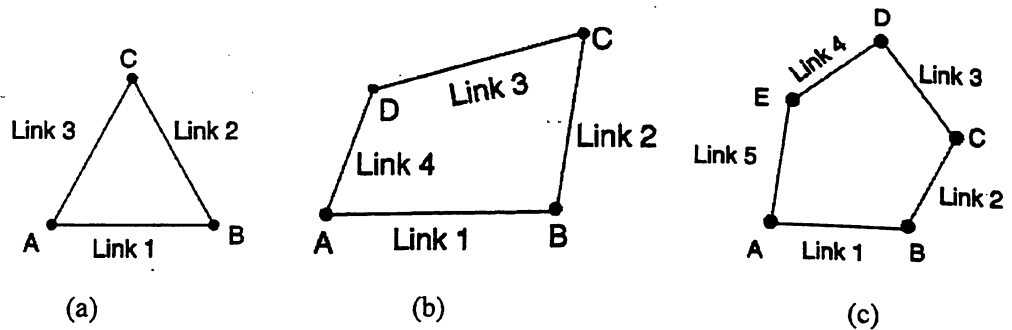

Figure 2.
- 1 Check the mobility criteria for the following linkages shown in figure 2 below.